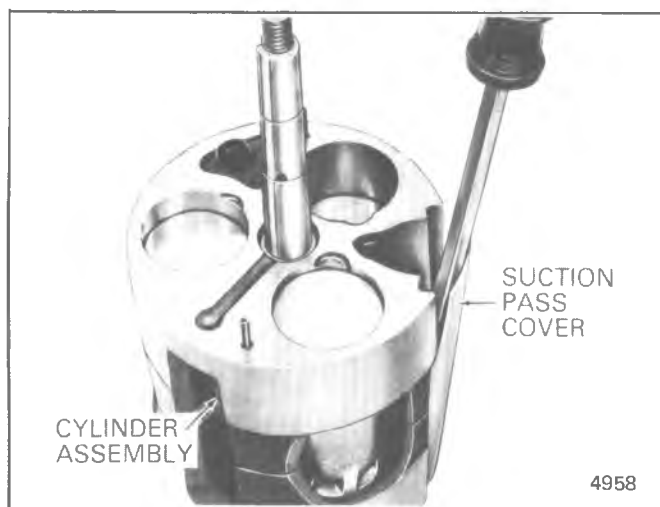

Fig. 1D-34 Removing A-6 Suction Cross-Over Cover
19. Remove Suction Cross-Over Cover by prying with screwdriver between cylinder casting and cover (Fig. 1D-34).